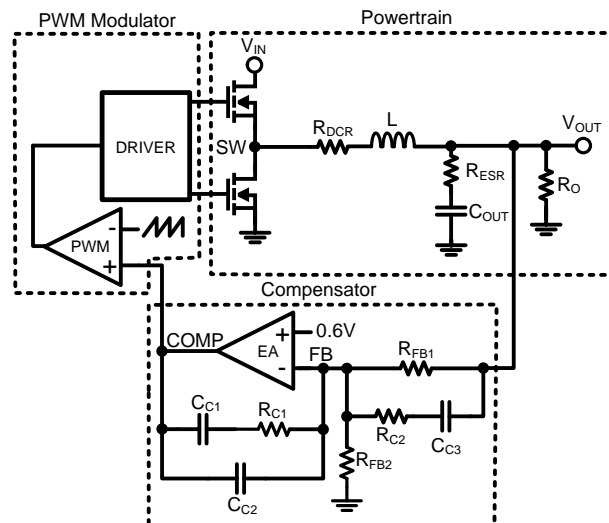
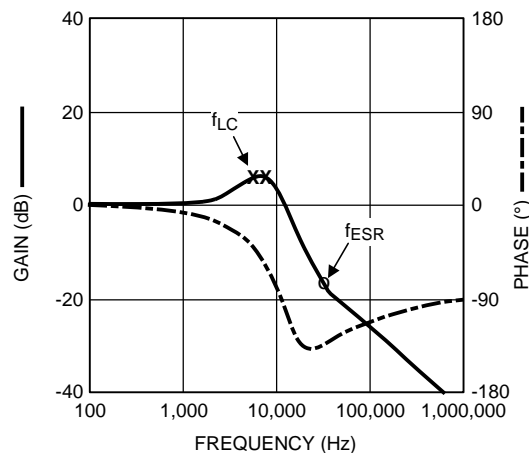

Figure 35. Control Loop Schematic Diagram
Figure 36. Powertrain Bode Plot
There are three main blocks of a voltage mode buck switcher that the power supply designer must consider when designing the control system: the powertrain, PWM modulator, and the compensator. A diagram representing the control loop is shown in Figure 35.
The powertrain consists of the filter inductor (L) with DCR (R_{DCR}), output capacitor (C_{OUT}) with ESR (effective series resistance R_{ESR}), and effective load resistance (R_O). The error amplifier (EA) regulates the feedback pin (FB) to 0.6V. The passive compensation components around the error amplifier help maintain system stability. Type III compensation is shown in Figure 35. The PWM modulator establishes the duty cycle command by comparing the error amplifier output (COMP) with an internally generated ramp set at the switching frequency.
The bode plot of the above transfer function can be seen in Figure 36.
The complex poles (f_{LC}) created by the filter inductor and output capacitor cause a 180° phase shift as seen in Figure 36. The phase is boosted back up to -90° by virtue of the output capacitor ESR zero. The phase shift caused by the complex poles must be compensated to stabilize the loop response. The compensation network shown around the error amplifier in Figure 35 creates two poles, two zeros and a pole at the origin. Placing these poles and zeros at the correct frequencies will optimize the loop response. The compensator transfer function is: